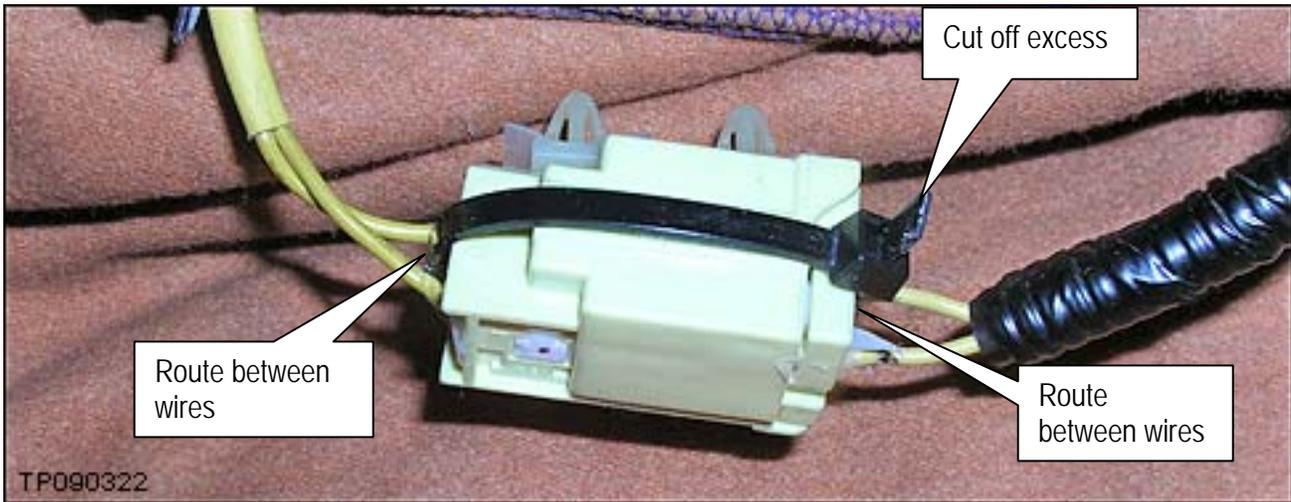

Figure 21
25. Install tie-wrap (P/N 24225 – 79960) around the connector as shown in Figure 21.